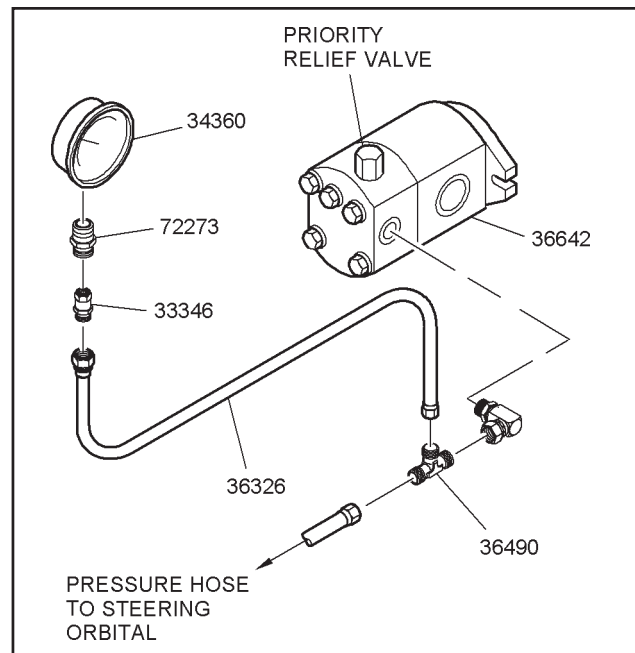

FIGURE 4-7. SETTING PRIORITY RELIEF VALVE
1. Plumb a 0 to 5000 psi pressure gauge into the Priority Flow Circuit as shown in Figure 4-7. Parts needed for this, including a pressure gauge, can be obtained from your authorized dealer. Part numbers are listed in Figure 4-7.